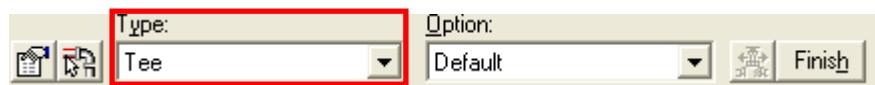

Figure 15: Type: Tee: Insert Component Ribbon
16. Select **Tee** from the **Type** drop-down list on the **Insert Component** ribbon, as shown in the Figure 15.